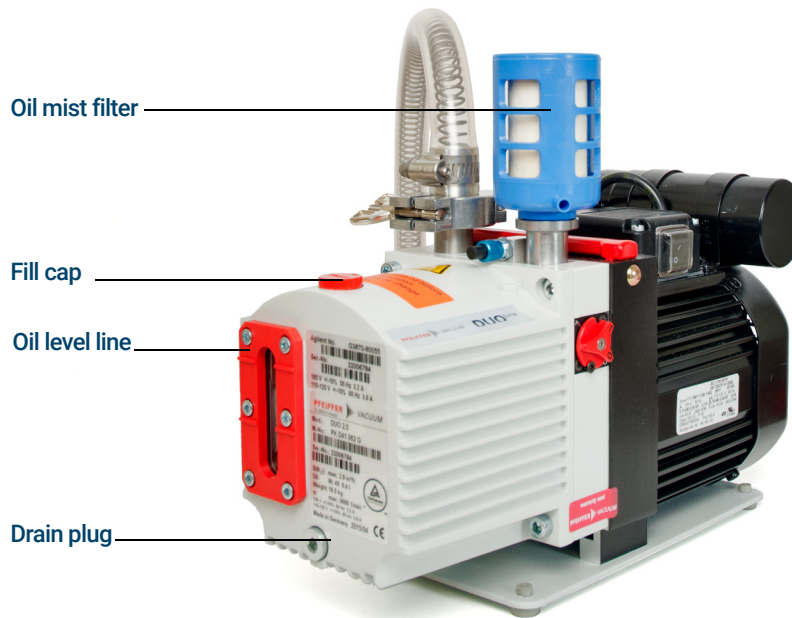

Figure 9. Pfeiffer Duo foreline pump
- 1 Examine the oil level window (**Figure 9** on page 101).
- 3 Remove the fill cap. (See **Figure 9** on page 101.)